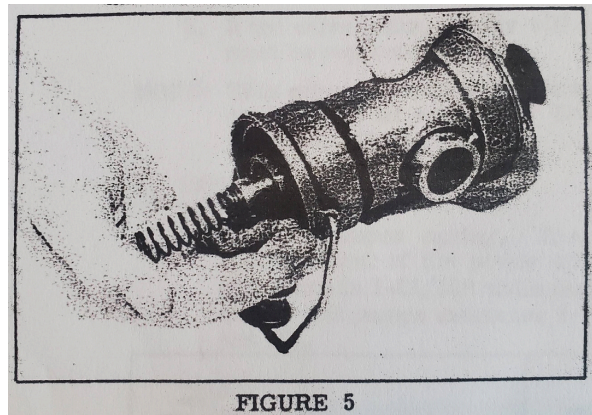

FIGURE 5
- a. Turn pump right side up; the power spring and piston should fall into the hand (Figure 5). If piston sticks, tap pump body on hard surface.